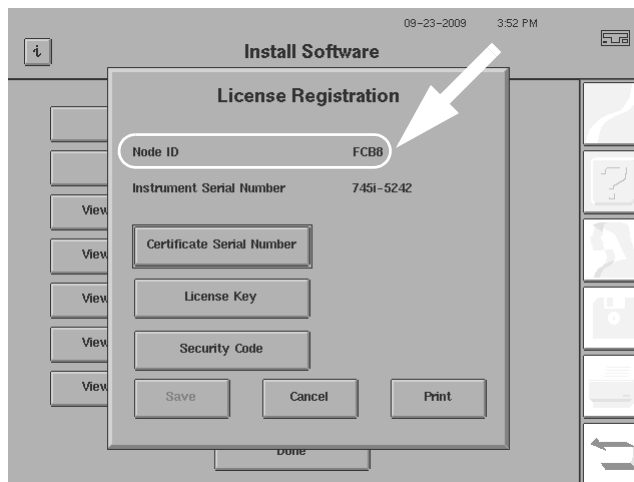
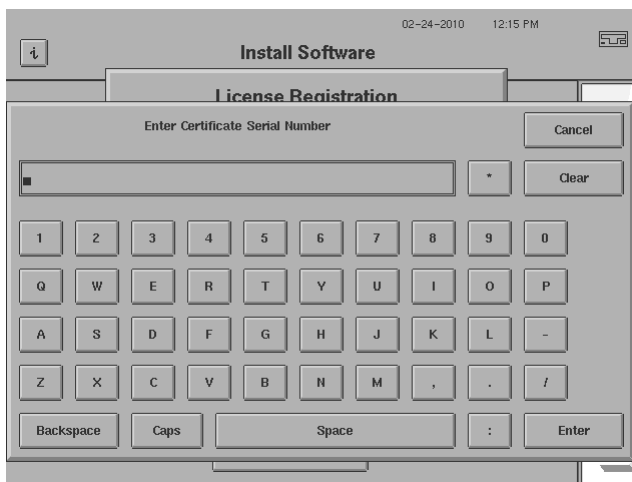

Figure J.7 Obtaining your Node ID on the HFA II-i License Information Screen
Figure J.9 Pop-up Keyboard for Certificate Serial Number
- 3 When the License Information screen for your software option opens (Figure J.7), note down on a piece of paper the Node ID information that is provided there. You will need this Node ID to complete the software licensing process on the Carl Zeiss Meditec web site. That process begins with the next step of this procedure.
- HFA II-/ serial number. The model number of your HFA can be found on the License Registration screen (see Figure J.7). It is also imprinted on a label that is affixed to the rear panel of the instrument or may be found by pressing the "i" button in the upper left corner.
- 1 Select CERTIFICATE SERIAL NUMBER from the License Registration Screen (Figure J.7). A pop-up keyboard will appear as is shown in Figure J.9. Use it to type in your certificate serial number (including the alphabetic prefix and the intervening dash before the number) that is printed on your certificate. When your entry is completed, select ENTER.